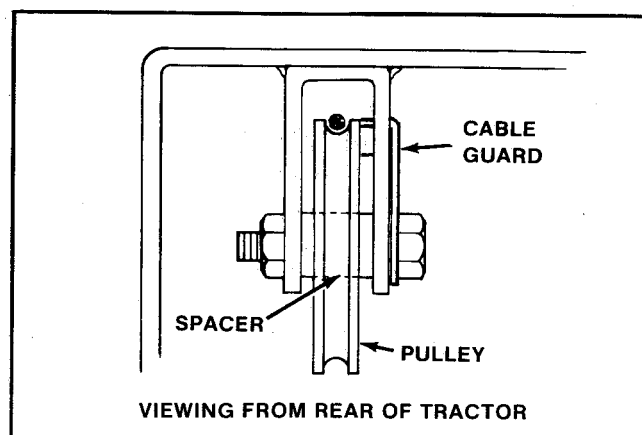

Figure 3
8. Use this step if tractor is not equipped with 38" rotary tiller. With cable over the top of the pulley, attach the spacer, cable guard and pulley to the u-shaped bracket with the capscrew and locknut as shown in figure 3. Note that the cable guard is on outside of u-shaped bracket. The u-shaped bracket is located underneath the frame above the lift lever assembly.
Locate the leg of the guard over the cable, so that the cable does not ride against the cable guard (figure 3). Tighten the capscrew and locknut.